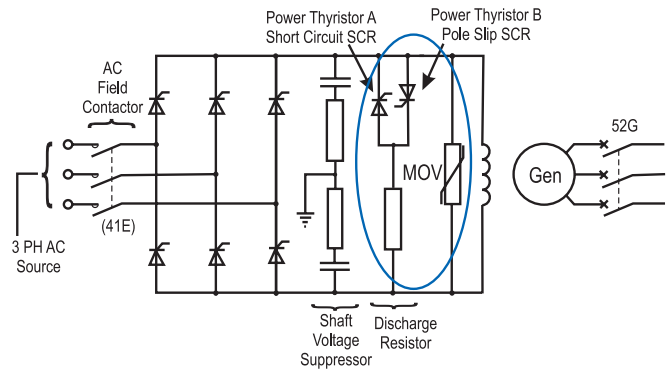

Figure 10 – Crowbar Circuit
The continuity circuit with a dc field breaker is made of a DC field contactor or breaker. This is a specific DC contactor specifically designed for disconnecting inductive loads. The contactor includes 2 normally open poles and 1 normally closed pole. During the opening/closing transition of the contactor, there is an overlapping zone, while all poles are closed, in order to never stop the field current loop. *(The DC Field Breaker option may also be designed to include a crowbar)*. See Figure 10.
The continuity circuit is made of a crowbar. 2 SCRs are mounted in anti-parallel, and controlled by a firing circuit. This system has a dual function: it realizes the continuity circuit, and it also protects the field during transient overvoltages positive or negative (such as during a pole slip). When a transient that is caused by a short circuit is induced into the field, a large negative voltage and positive current results. During this condition, the peak current from the fault will combine with the rectifier output and overload the rectifier bridge. A directional voltage sensitive crowbar circuit detects a specific overvoltage level that is negative and gates on SCR(A). In Fig. 10, SCR(A) shunts the positive current from the field through the discharge resistor and simultaneously disables the 6 SCR rectifier bridge to prevent overload. The MOV clamps the voltage for the initial 200 microseconds until the crowbar takes over.